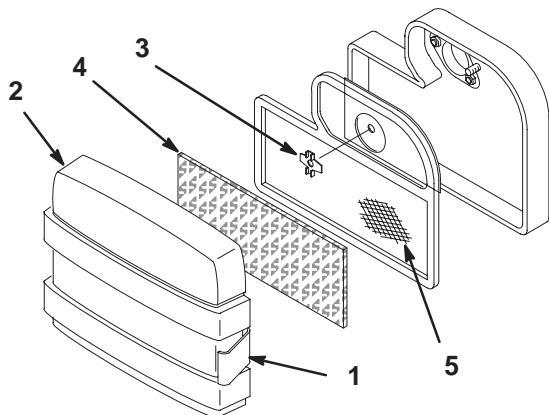

Figure 21
2. Clean around the air cleaner to prevent dirt from getting into the engine and causing damage. Pull out on retaining latches and remove the air cleaner cover (Fig. 21).
3. Unscrew nut and remove the air cleaner assembly (Fig. 21).
4. Carefully pull the foam element off the paper element (Fig. 21).
1. Carefully place the foam element onto the paper air cleaner element (Fig. 21).
2. Place the air cleaner assembly onto the air cleaner base (Fig. 21). Secure with nut.
3. Install the air cleaner cover and secure latches (Fig. 21).